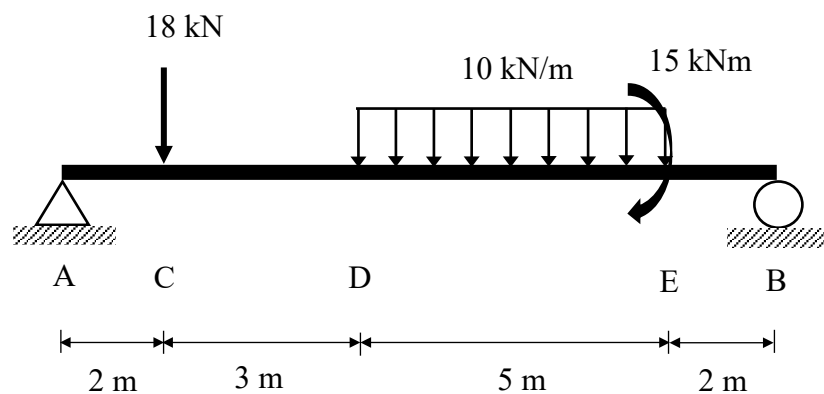

Figure A2(c) / Rajah A2(c)
(a) Figure A2(a) shows a T-section beam.
Rajah A2(a) menunjukkan rasuk berkeratan T.Figure A2(a) / *Rajah A2(a)*
From Figure A2(a);
- (c) Figure A2(c) shows a simply supported beam is subjected to point load, uniformly distributed load and moment. Given $R_{Ay} = 32.5$ kN and $R_{By} = 35.5$ kN. By using a Macaulay Method, construct the equations for bending moment, slope and deflection.